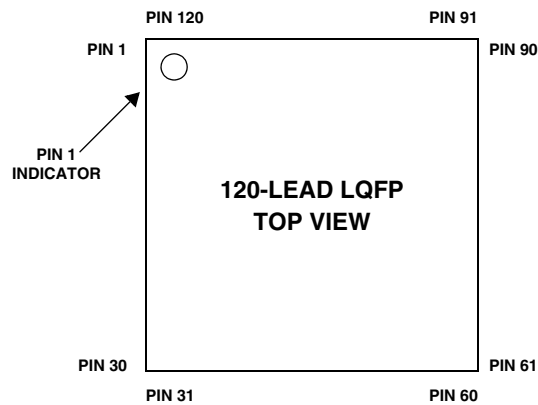
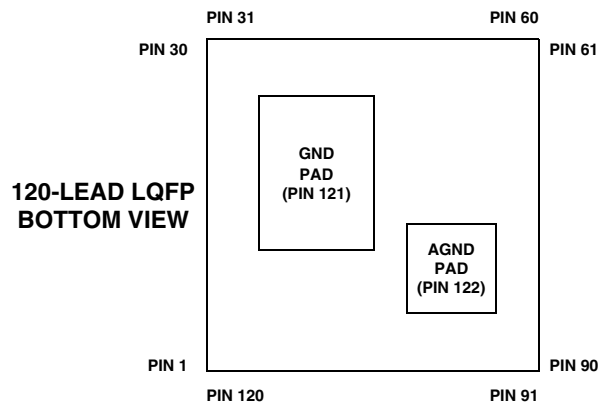

Figure 89. 120-Lead LQFP Package Lead Configuration (Top View)
Figure 90. 120-Lead LQFP Package Lead Configuration (Bottom View)
* Pin no. 121 is the GND supply (see Figure 89 and Figure 90) for the processor (4.6mm × 6.17mm); this pad **must** connect to GND.
** Pin no. 122 is the AGND supply (see Figure 89 and Figure 90) for the ADC (2.81mm × 2.81mm); this pad **must** connect to AGND.
Figure 89 shows the top view of the 120-lead LQFP package lead configuration.
Figure 90 shows the bottom view of the 120-lead LQFP package lead configuration.